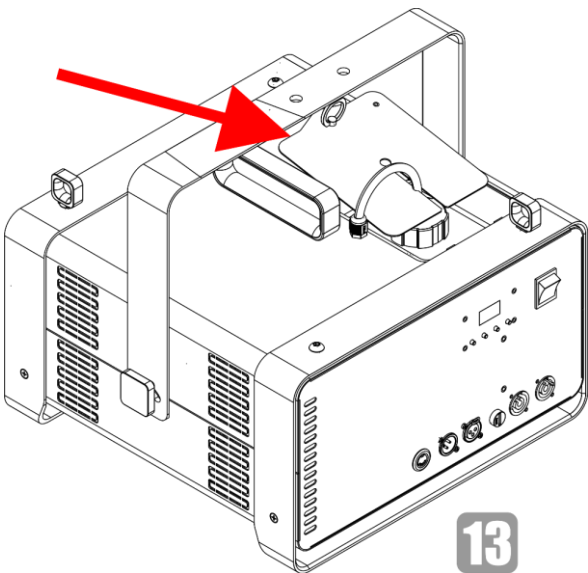

Fig. 19
- 13) Put the lid back on the device, as shown in Fig. 19.